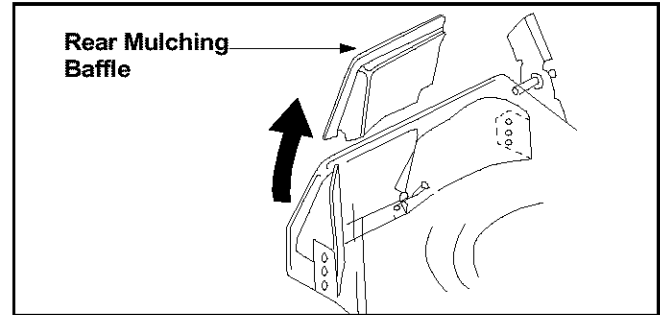

Figure 7
- Remove the mulching baffle in order to install and use the grass catcher. Lift the rear discharge door and remove the rear mulching baffle from the mower. See Figure 7.